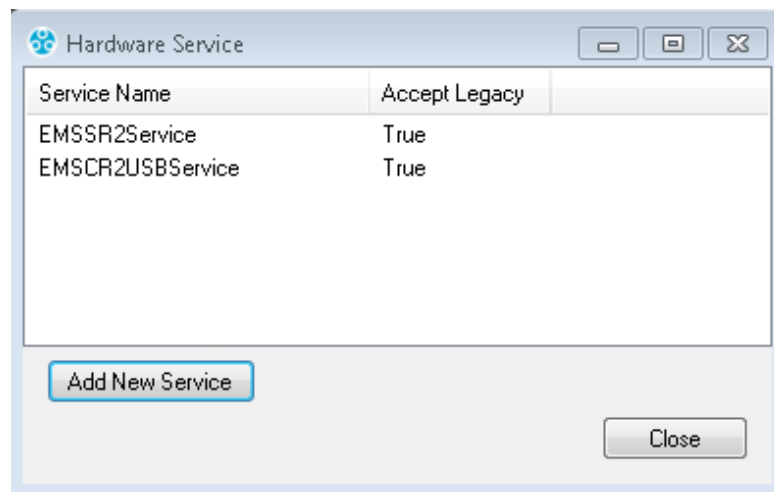

Figure 126
- The **Hardware Service** window is displayed showing default Hardware Services. See Figure 126 below:
- \* The new Hardware Service is displayed in the **Hardware Services** window (see Figure 126 above).
10. If/when all required Hardware Services are shown in the **Hardware Services** window (see Figure 126 above), click on **Close**.